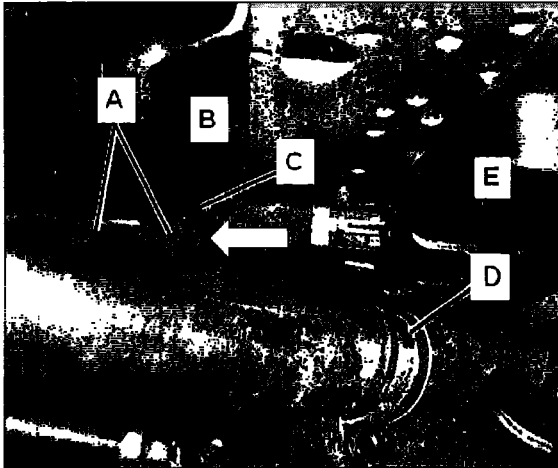

Figure 22
23. Secure ground wiring harness and SBC wiring harness (A, Figure 22) to SBC hydraulic unit bracket (B) with cable tie (arrow). Tighten cable tie (arrow) with Hellermann MK9 cable tie pliers (Special Tool: W 352 589 02 37 00) using **setting 3** on pliers.
24. Attach hose mounting strap (D, Figure 22) to mounting stud, secure with nut.